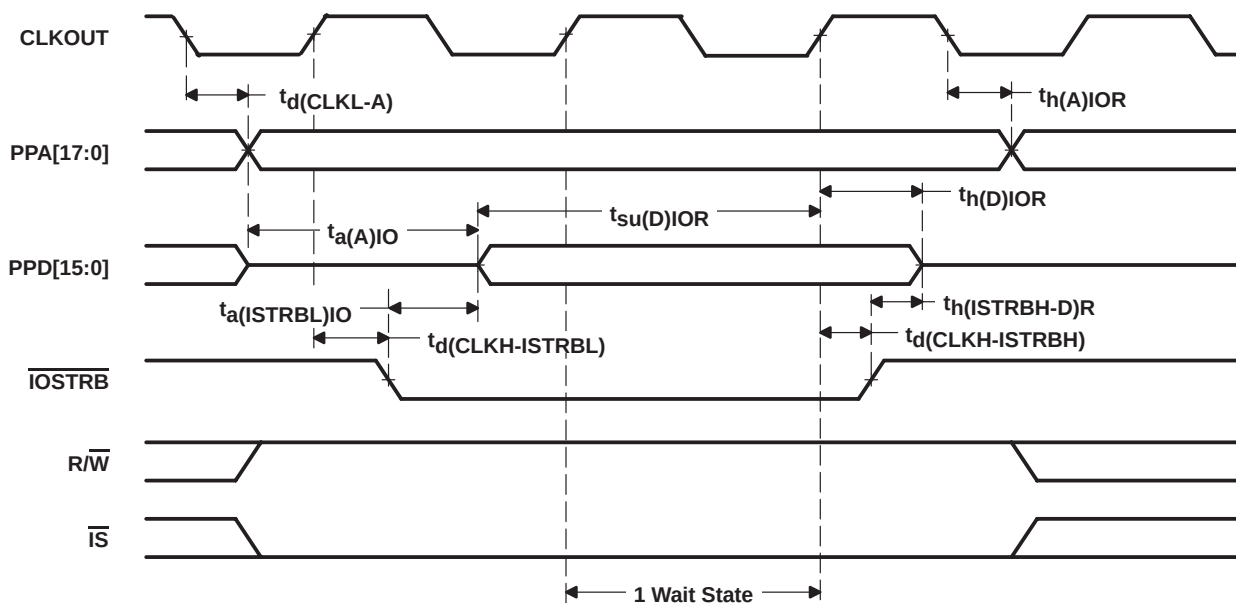

Figure 17. Parallel I/O Port Read ( $\overline{\text{IOSTRB}}=0$ )
**switching characteristics over recommended operating conditions for a parallel I/O port read ( $\overline{\text{IOSTRB}} = 0$ )† (see Figure 17)**
**timing requirements for a parallel I/O port read ( $\overline{\text{IOSTRB}} = 0$ ) [ $H = 0.5 t_{c(\text{CO})}$ ]† (see Figure 17)**